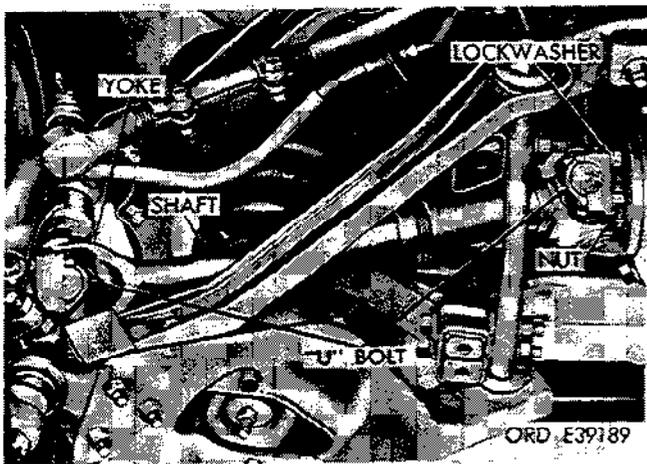

Figure 2-301. Remove front wheel drive shaft.
a. *Removal* (fig. 2-301). Raise front of vehicle. Remove eight nuts and lockwashers from four "U" bolts. Slide drive shaft universal joint yoke toward wheel and remove shaft.
b. *Installation* (fig. 2-301, and reverse procedure). Slip joint end of shaft must be installed toward differential.